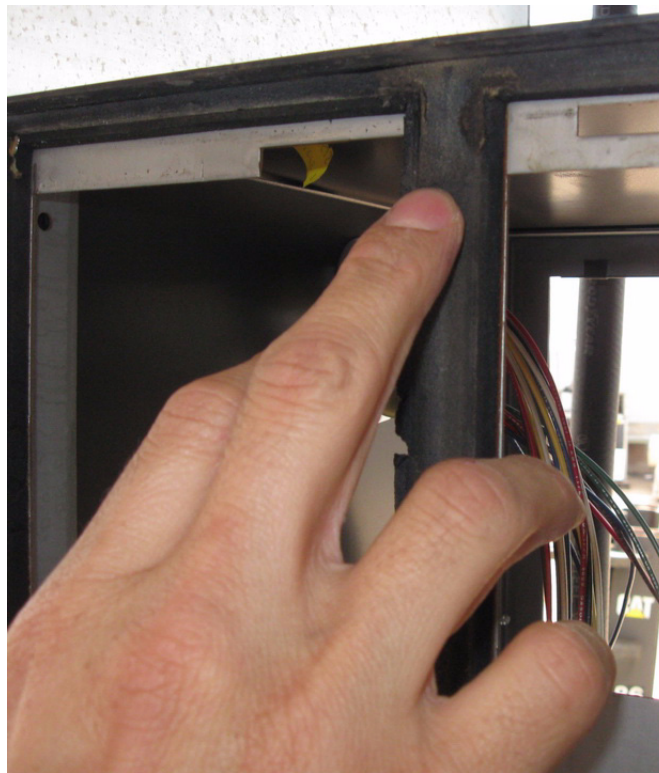

FIGURE 7
- A. Remove gasket between printer door frame and display/keypad door frame. See Fig 7 and Fig 8.